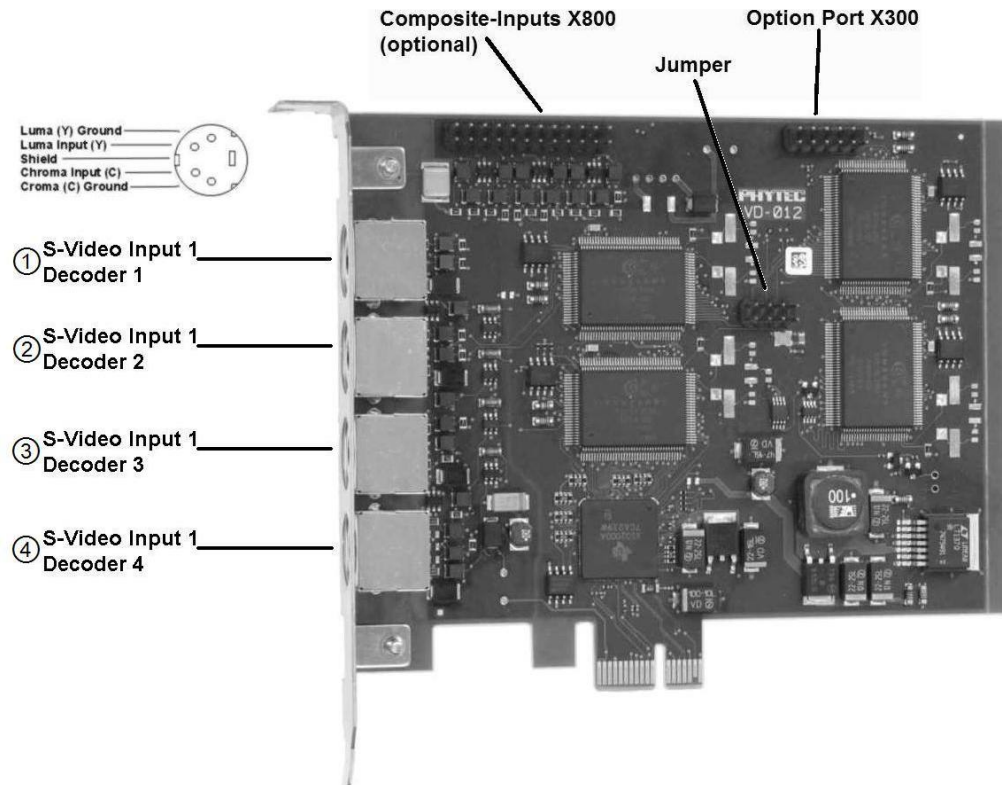
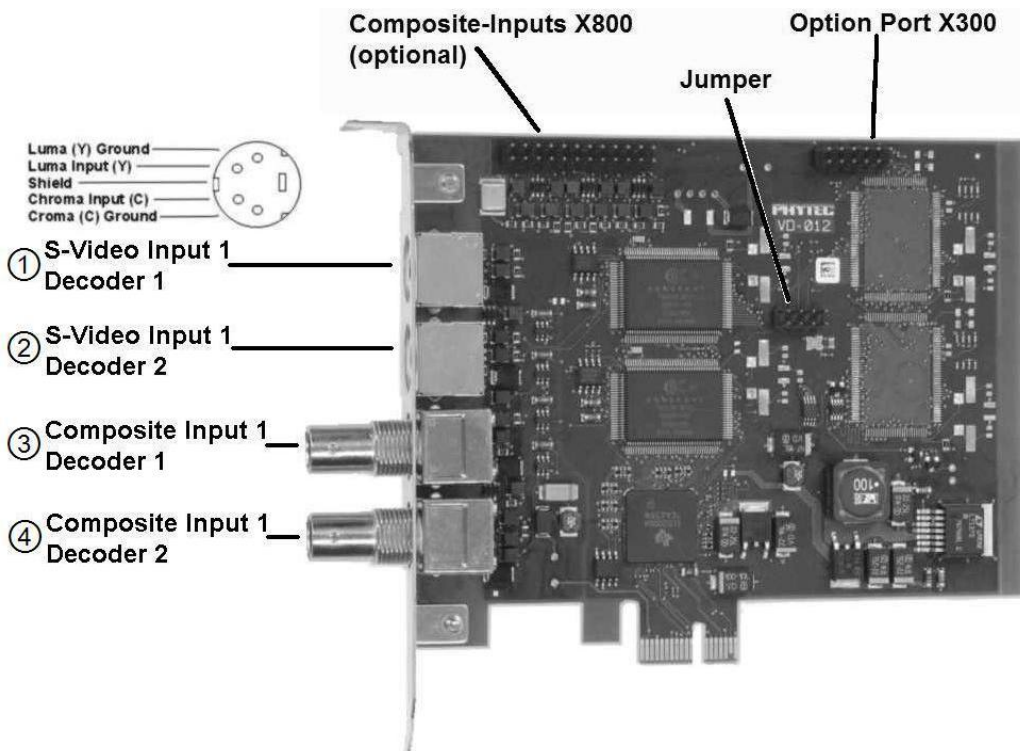

Figure 3: Connectors of the pciGrabber-4x4 (VD-012-X1)
Figure 4: Connectors of the pciGrabber-4x4 (VD-012-X2)
- The sockets are switched to the corresponding S-Video norms (refer to Figure 3 and Figure 4). The connection of the camera is possible using an S-Video cable.